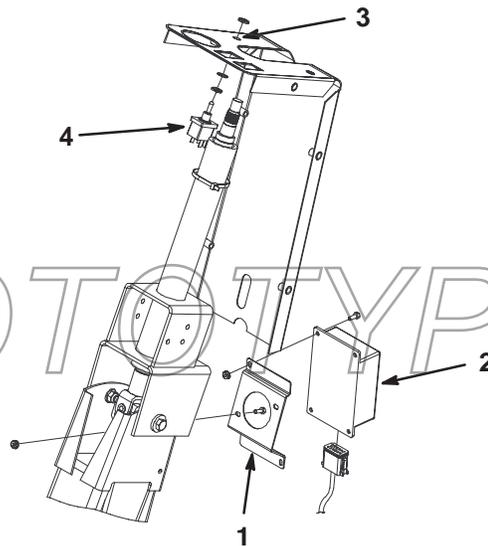

Figure 3
3. Mount the flasher bracket to the steering column mount with 2 slotted-head screws (#10–24 x 1/2 in.) and 2 Keps nuts (Fig. 3).
4. Mount the dual rate flasher to the bracket with 2 slotted-head screws (#10–24 x 1/2 in.) and 2 Keps nuts (Fig. 3).
5. Locate the pilot hole beneath the steering column decal on top of the steering tower cover (Fig. 3).
7. Mount the toggle switch to the steering tower cover with the washer and nuts supplied in the kit. Orient the keyway toward the rear of the machine (Fig. 3).